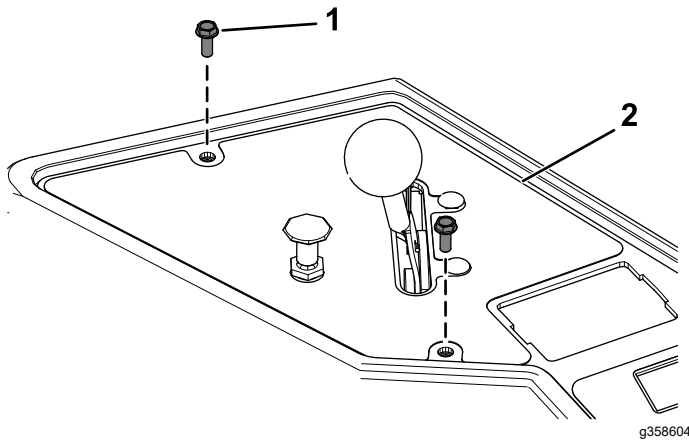

Figure 19
1. Remove the 2 screws securing the control panel, and lift the control panel from the console (Figure 19).
6. Secure the control panel to the console using the previously removed 2 screws (Figure 19).